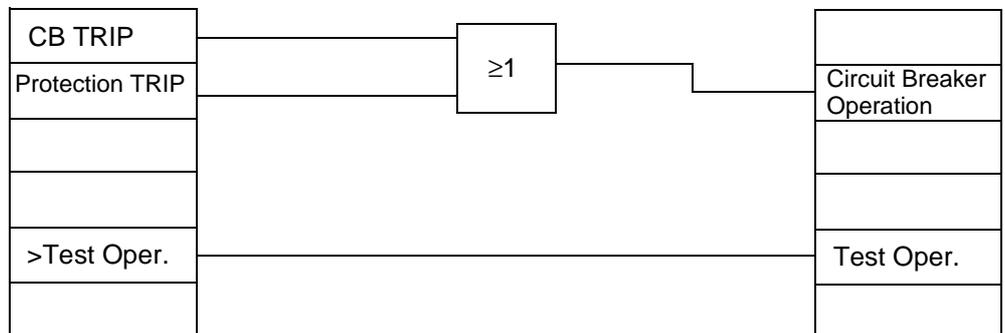

Figure 5-41 Additional logic as an example for a PLC\_1 event-driven logic condition
By using slow PLC processing, an additional, event-driven logic condition may be constructed which delivers indications regarding switch-gear operating status. These indications may be passed externally via LEDs or relay contacts, or used as input signals for further logical links. In the example (see Figure 5-41), the output information indication from the circuit breaker interlocking logic (CB TRIP) and a joint indication from all protective element trip signals (Protection TRIP) are linked to a new “Circuit Breaker Operation” message. Furthermore, the single point indication (SP) **Test Oper.**, which may be coupled via a binary input, is linked with an internal reusable “Test oper.” message.